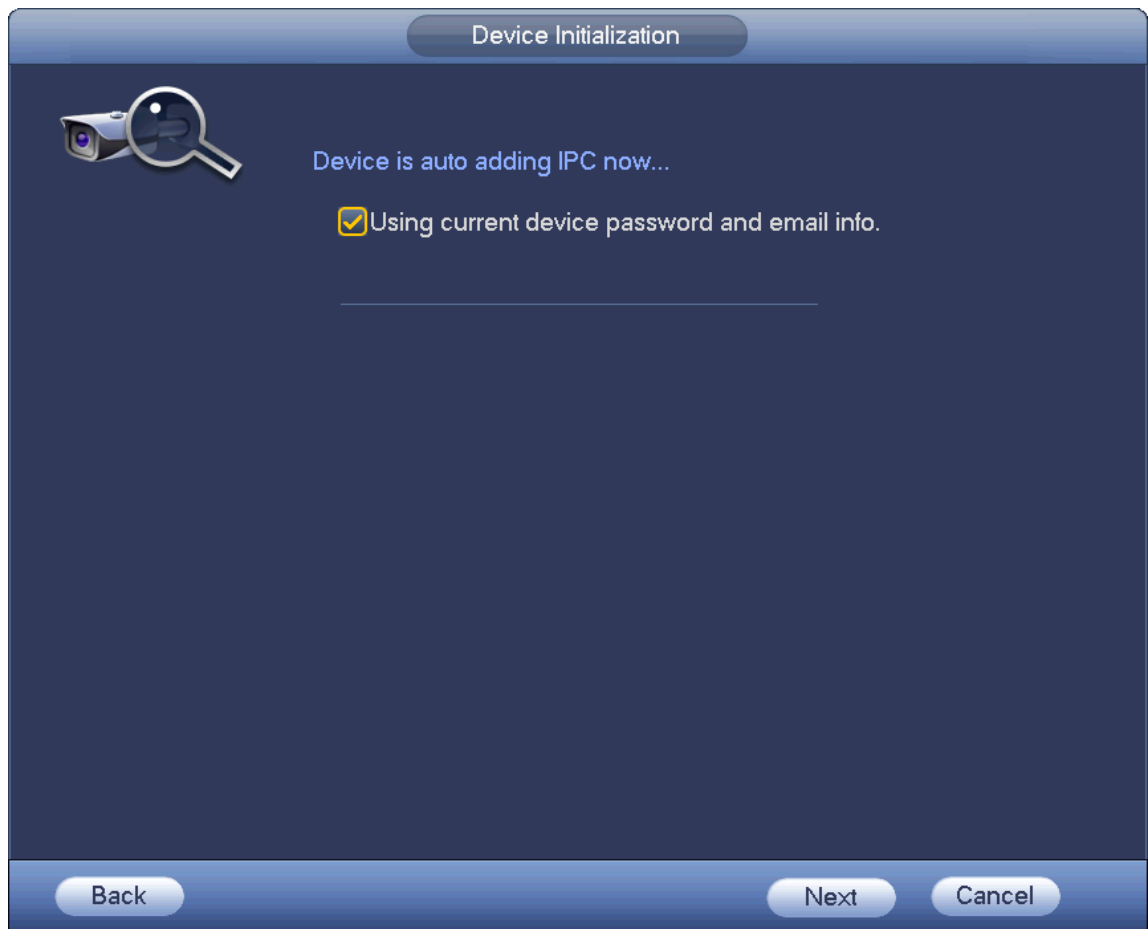

Figure 4-15
Step 1 There are two ways to go to the smart add interface. See Figure 4-15.